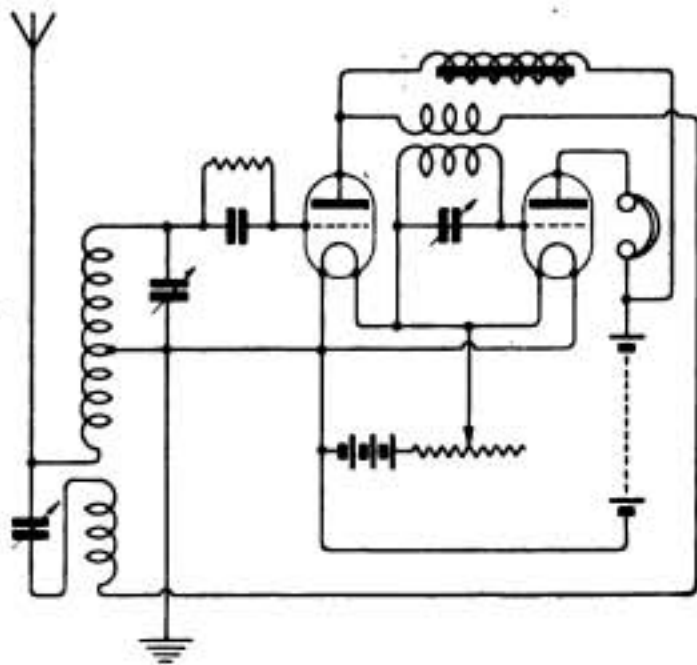

Fig. 2.
(1) We cannot give exact valves without experimental work which you can equally carry out yourself, but we think your suggestion of a former $3\frac{1}{2}$ " diameter with 25 turns for the aerial, and 50 for the grid circuit, should be satisfactory (2) Try tapping the grid coil at 20, 30, 40 and 50. Tap the aerial coil at every two turns. (3) Reaction coil might have 35 turns, tapped at 10 and 20. (4) See diagram, Fig. 2.